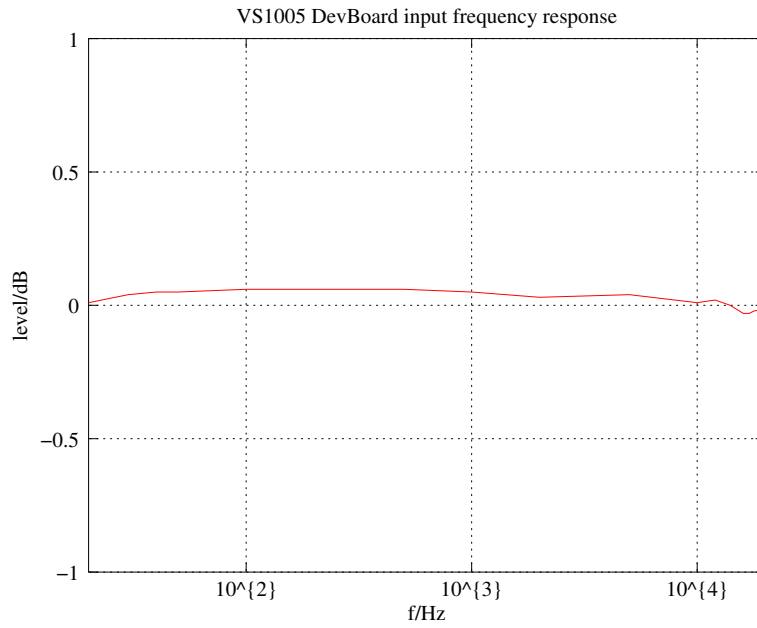

Figure 17: DevBoard Input Frequency Response, 20 to 20000 Hz.
The input frequency response as shown in the table above and Figure 17 shows a frequency response of ± 0.07 dB at 20 to 20000 Hz.
- Corrected Prefilter frequency response curves in Figures (removed in v1.11) and (removed in v1.11). The corrected curves were then applied to the correction table in Chapter 5.2.6, and also the frequency response curve in Figure 17.